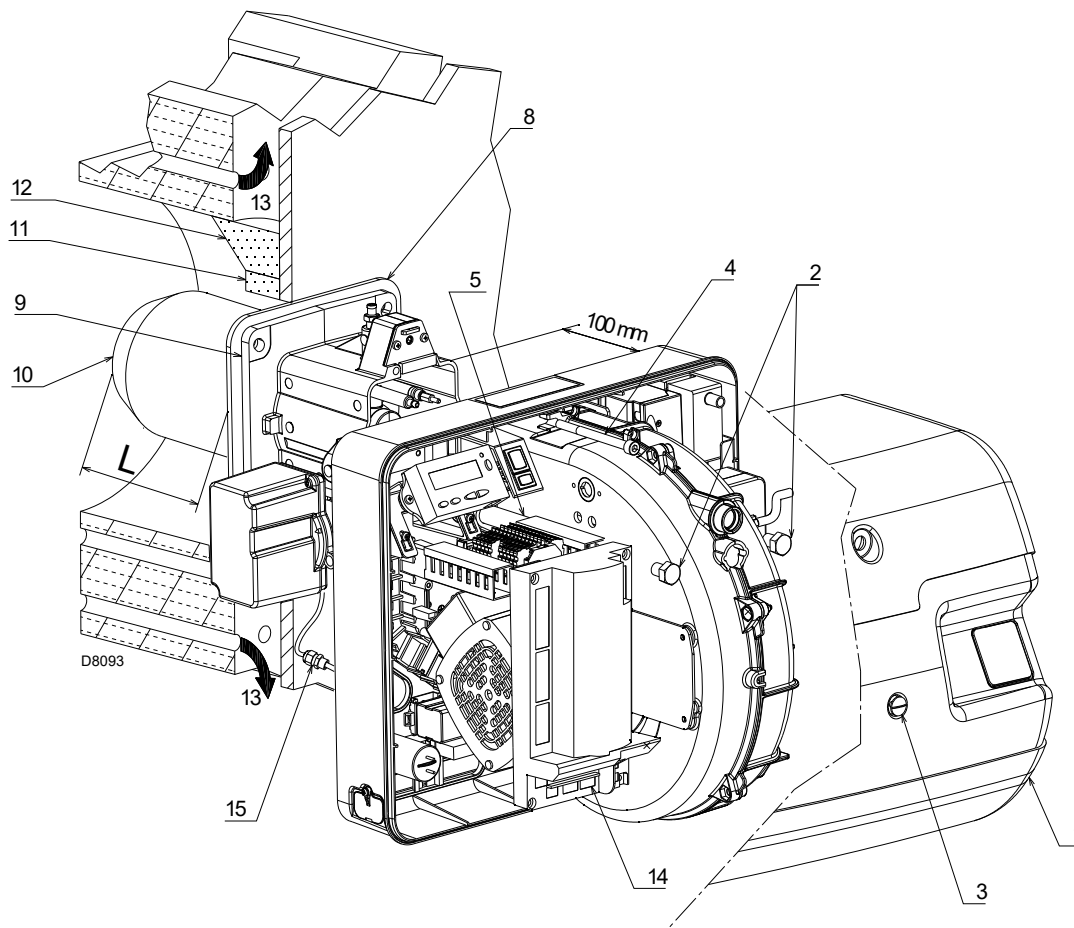

Fig. 17
For boilers with front flue passes 13)(Fig. 17), a protection in refractory material 11) must be inserted between the boiler refractory 12) and the blast tube 10).
For boilers with a water-cooled frontal, a refractory cover is not necessary 11)-12)(Fig. 17), unless expressly requested by the boiler manufacturer.
Separate the combustion head from the rest of the burner, as in Fig. 17; proceed as follows:
- reassemble the burner on the guides 3) at about 100 mm from the pipe coupling 4) - burner in the position shown in Fig. 17;
- connect the plug of the servomotor 14)(Fig. 17) and tighten the grommet 15);